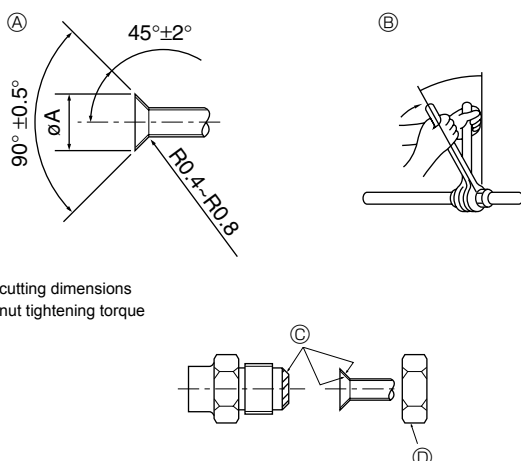

Fig. 4-1
4.2. Connecting pipes (Fig. 4-1)
- Apply thin layer of refrigerant oil to pipe and joint seating surface before tightening flare nut. ④
- Use 2 wrenches to tighten piping connections. ⑤
- Apply refrigerating machine oil over the entire flare seat surface. ③
- Use the flare nuts for the following pipe size. ⑥
④ (Fig. 4-1)
⑤ (Fig. 4-1)